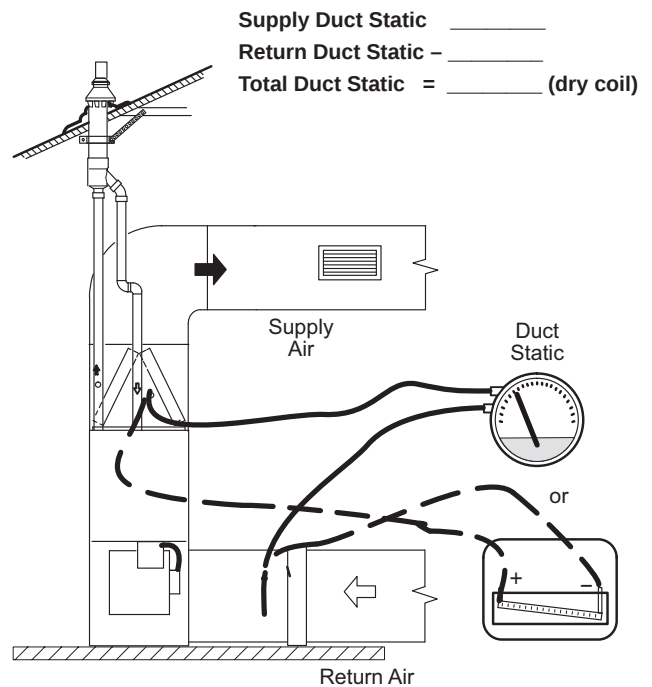

Figure 53. Static Pressure Test
1. Tap locations shown in **Figure 53**.